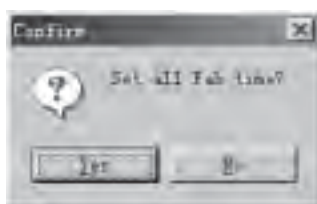

Fig. 6-2 Dialogue Frame of Setting FAB Time
1. Select and click the option System | Set FAB Time , then a dialogue frame the system prompting to carry out the setting time operation will be displayed in the interface as in Fig. 6-2.